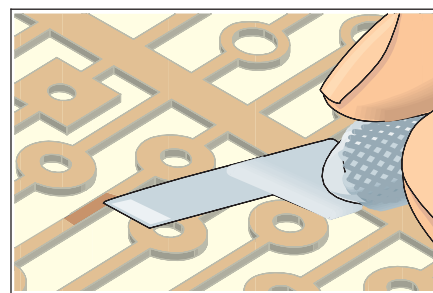

Figure 3 Scrape off the adhesive bonding film from solder joint area.
9. Before trimming out the new land carefully scrape off the adhesive film from the solder joint connection area on the back of the new land. (See Figure 3.)